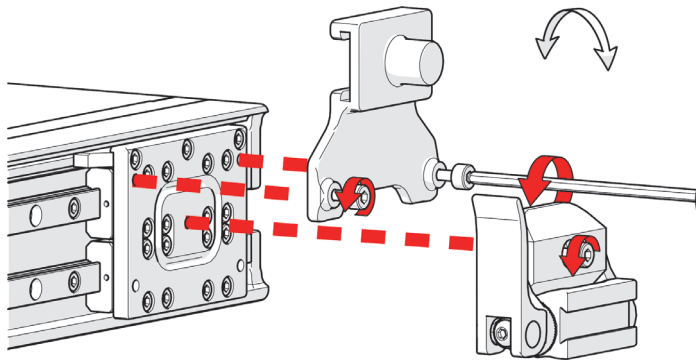

Figure 2-47 Remove pivot nose and carriage bracket
5. Unscrew the single pivot nose screw using the supplied 3 mm hex driver, and then remove the carriage bracket's two screws (see Figure 2-47 on page 80).